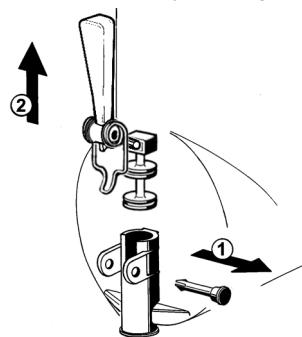

figure 10
- 5** Dismantle the faucet assembly (see figure 10).
- 3 Assemble the faucet by reversing the disassembly steps (see figure 10)